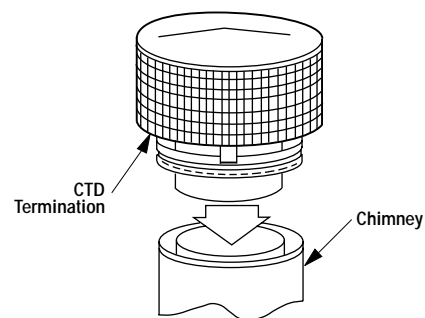

Figure 31
1. Hold the FTF8-CTD over top of last chimney section (Figure 31).